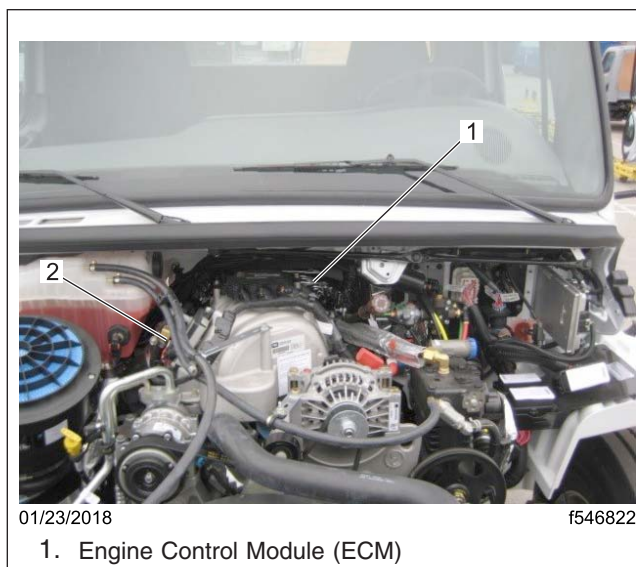

Fig. 1, Location of the ECM
5. Remove the engine control module (ECM). See Fig. 1.